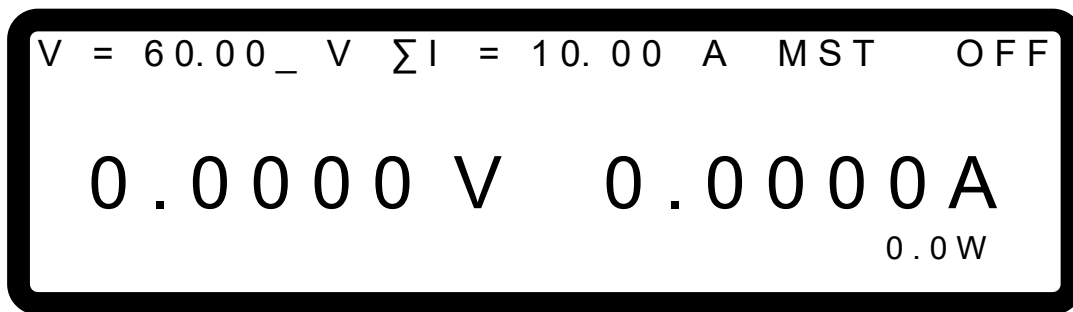

Figure 3-46
MAIN PAGE is mainly used to set voltage (V) and current (I). The difference between single unit and parallel operation is that the current set will increase following the number connected in parallel. The current set is indicated by ΣI for easy identification. When set to MASTER, MST will appear at the window's upper right corner as Figure 3-46 shows below.